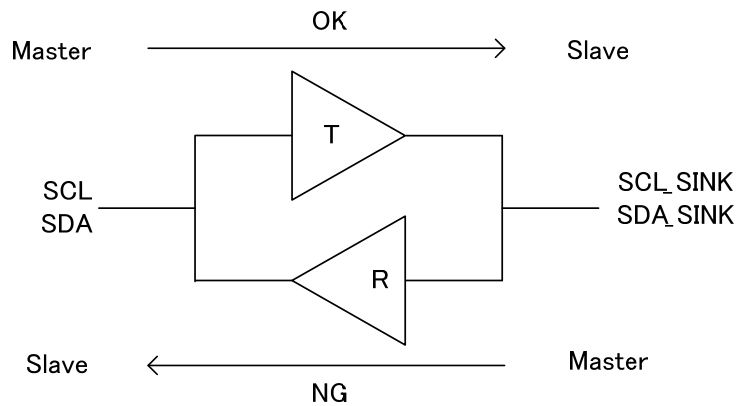

Figure 16 Limitation of Master and slave direction
7). Limitation of Master and slave direction as shown Figure 16.